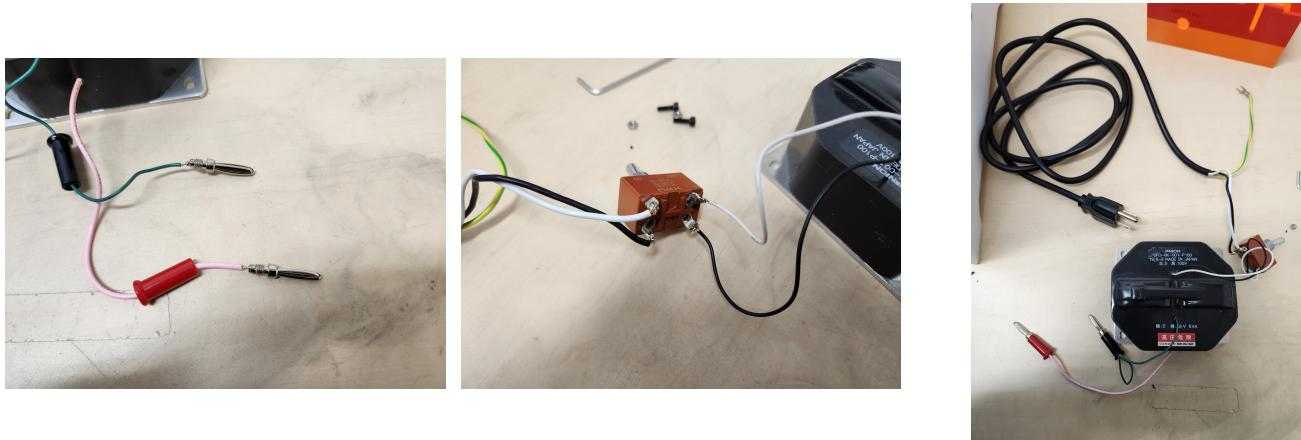

Figure 2: (left) soldering banana plugs, (center) soldering toggle switch (right) the finished product after soldering
1. Solder banana plugs to the output side of the transformer (Fig. 2 left).
2. Solder the high-voltage transformer, toggle switch, and power cable as shown in the photo (Fig. 2 center).